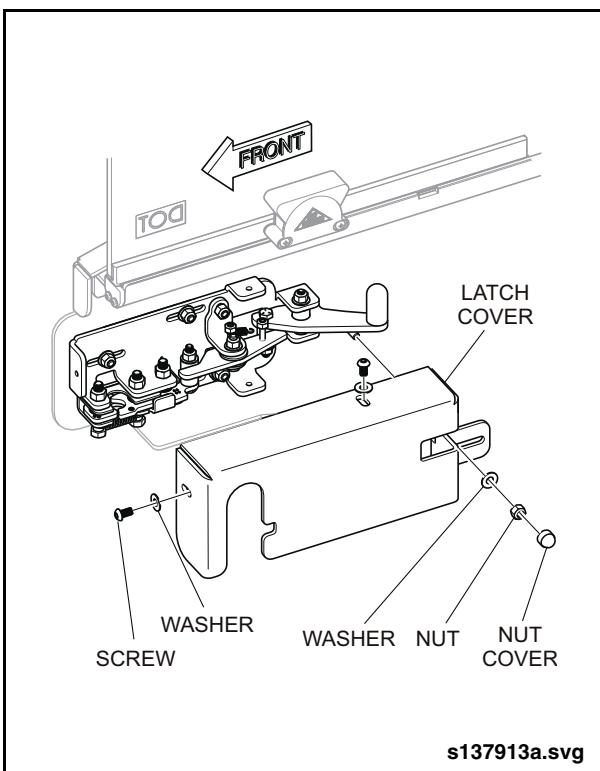

Fig. 17-18: Latch Cover Removal & Installation
1. Remove the latch cover by removing the plastic nut covers, nuts, washers and screws. See "Fig. 17-18: Latch Cover Removal & Installation" on page 21.